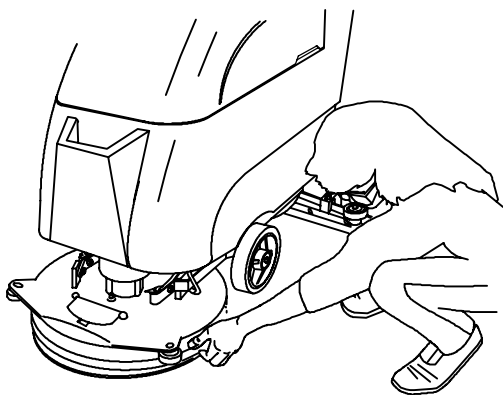

FIG. 61
6. Check scrub head skirt for wear. Replace if worn or damaged. Make sure skirt height is 1.5 mm (.062 in) from floor all away around scrub head with pad/brush installed (Figure 61).